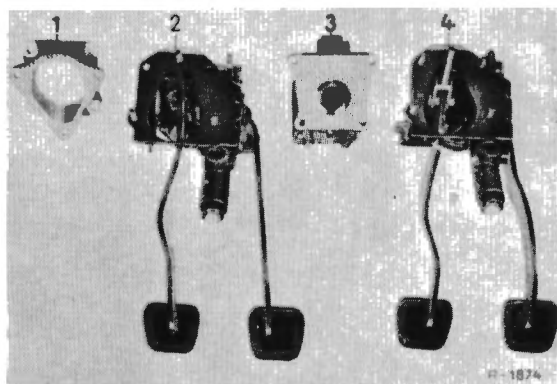

Fig. 29-1/8
9. Remove the support together with the pedals, paying attention to the shims installed between the support (7) and the cross member (8) (Fig. 29-1/3).